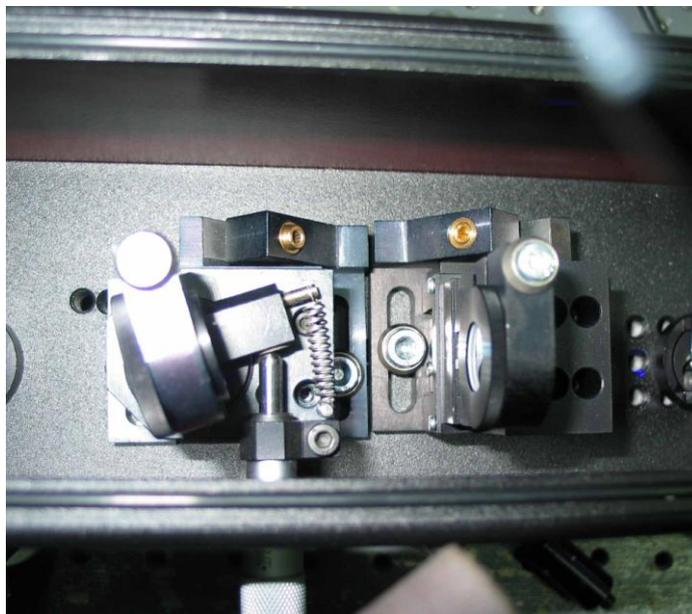

Fig.7. Position of TH holder at 410 nm (SH) (FH - 205 nm). Crystal #1.
- 15) **FOR TUNING:** Use knob K1 to tune the generator for the proper wavelength. Rotate knob K1 in clock-wise direction to tune from 212 to 205 nm (see Fig.7). You need to rotate the THC holder on $+20^\circ$ according to the direction of SH beam.
- 16) To tune generator from 212 nm to 230 nm change the crystal #1 on the crystal #2. Rotate the crystal to the position where the 205 nm is observed (as on Fig.7) (approximately). Block the beam before the box. Install the crystal №2 according to the green mark “up”. Rotate the crystal in anti-clock-wise direction to tune the generator from 212 to 230 nm.